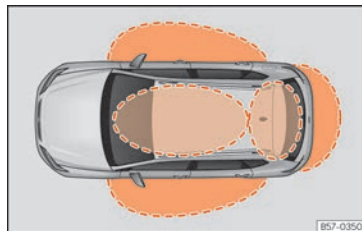
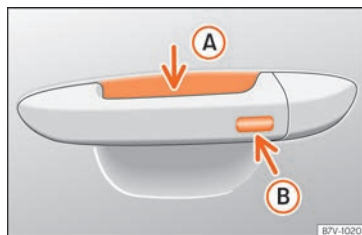

Fig. 74 Keyless Access: proximity zones.
Fig. 75 Door handle: sensor surfaces
» Fig. 75
Keyless Access is a key-free locking and ignition system to unlock and lock the vehicle without actively using its key. To do this, all that is required is to have a valid vehicle key in the detection area where you are attempting to access the vehicle » **Fig. 74** and to touch one of the sensor surfaces on the door handles » **Fig. 75** or operate the *softtouch*/handle on the rear lid » **page 103** » ❶.
If a valid key is in the proximity of the car, » **Fig. 74** the Keyless Access locking and starting system gives the key entry as soon as one of the sensor surfaces on the door handles is touched or the *softtouch*/handle on the rear lid is operated.
- Grip one of the front door handles. When you do this, you touch the sensor surface » **Fig. 75** ❶ (arrow) of the handle and the vehicle unlocks.
- Touch (once) the locking sensor surface » **Fig. 75** ❷ (arrow) on one of the front door handles. The door that is used must be closed.
- Touch [once] the sensor surface »» Fig. 75 (B) (arrow) on one of the front door handles. The vehicle locks with the "Safe" security system »» page 98. The door that is used must be closed.
- Touch [twice] the sensor surface »» Fig. 75 (B) (arrow) of one of the front door handles to lock the vehicle without activating the "Safelock" security system »» page 98.
When the vehicle is locked, the rear lid automatically unlocks on opening if there is a valid vehicle key in the proximity zone »» Fig. 74.
- Push the central locking button  on the remote control and touch the locking sensor surface of the driver door handle »» Fig. 75 (B) within the following 5 seconds. Do not grasp the door handle; otherwise the vehicle will not unlock. Deactivation is also possible if the vehicle is locked through the driver's door lock.
To close all the electric windows and the sunroof using the **comfort function**, keep a finger for a few seconds on the locking sensor surface »» Fig. 75 (B) (arrow) of the door handle until the windows and roof have closed.
The sensor surfaces on the door handles could engage if hit with a water jet or high pressure steam if there is a valid vehicle key in the proximity. If at least one of the electric windows is open and the sensor surface »» Fig. 75 B (arrow) on one of the handles is activated continuously, all windows will close.